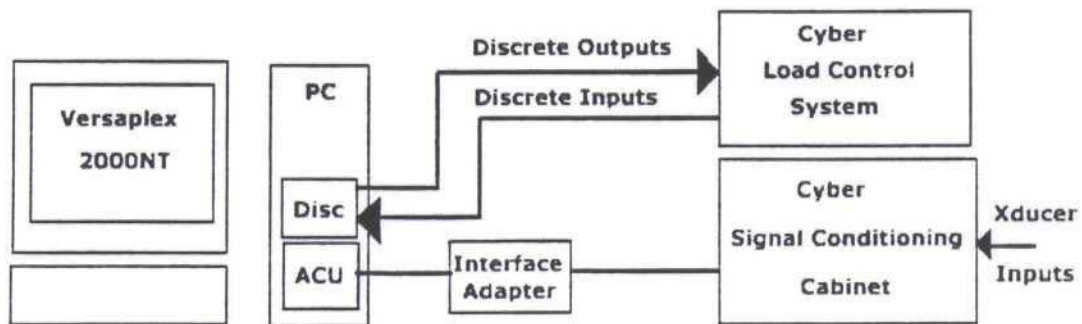

Figure 4 – Basic Versaplex 2000NT System Configuration
The Versaplex system is designed to be unpacked and ready-to-use within a few minutes. This is possible because the Versaplex 2000NT system consists of very few pieces. In fact, aside from the measurement cabinet, a complete system includes only three principle items; a Personal Computer (PC), an Acquisition Control Unit, and an Interface Adapter. **Figure 4** illustrates how these items are configured in a complete system.